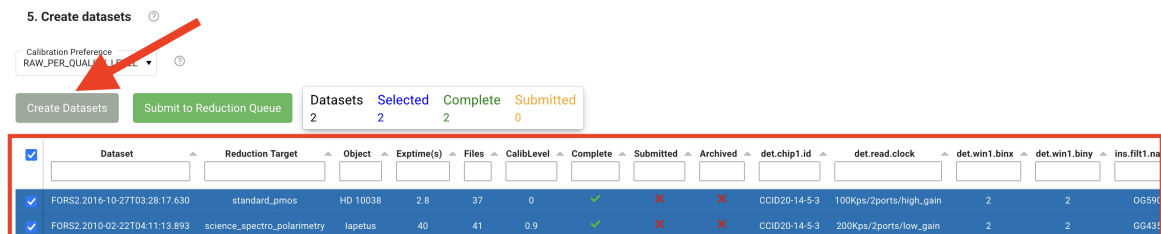

Figure 7: How to inspect the input data directory to create datasets.
4. Press 'Create Datasets'. A list of datasets appears, one line for each set of science data (Figure 7).